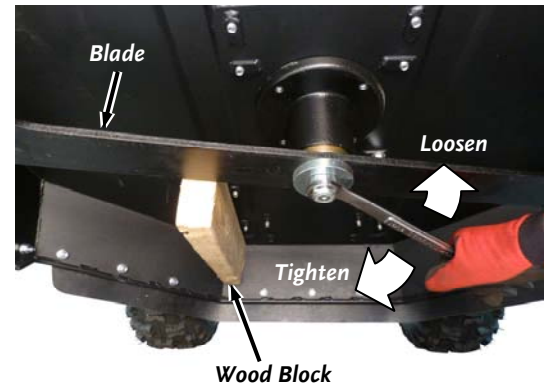
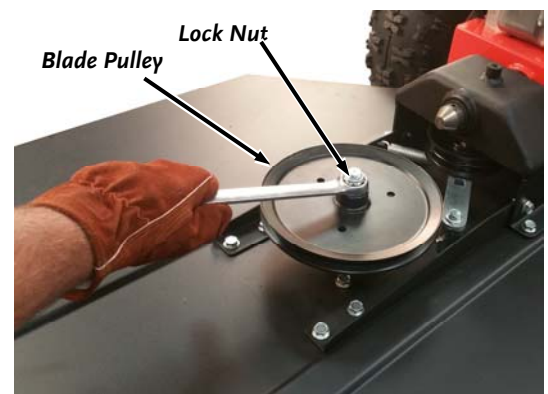

Figure 32
Figure 34
1. Block the Blade with a piece of wood between the Blade and the Skid on the side of the Deck (**Figure 32**).
3. Block the blade with a piece of wood (**Figure 32**) as you remove the Locknut using a 15/16" Wrench (**Figure 34**).